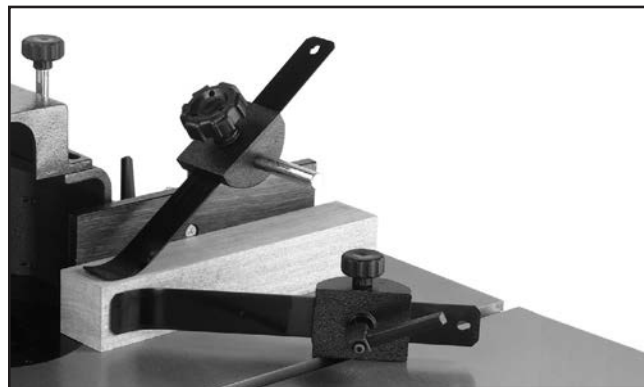

Figure 22. Example of hold-downs on workpiece.
1. Slide a hold-down bar into each of the cast iron hold-down brackets (see **Figure 22**).